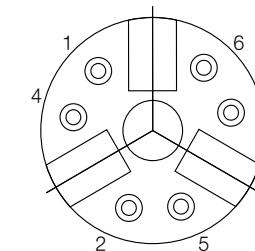

Fig.5
(5) 将夹头安装在主轴上。(via adaptor plate) Turn the joint so that the chuck is properly attached to the spindle mounting face of the lathe. Uniformly tighten chuck mounting bolts in order to 1→2→3→4→5→6 as shown in Fig.5
(5) 请把夹头安装在主轴(夹头适配器)上。旋转连接用把手，使夹头完全与车床的主轴附着面接触。均匀地，紧夹头螺栓(Fig.5)